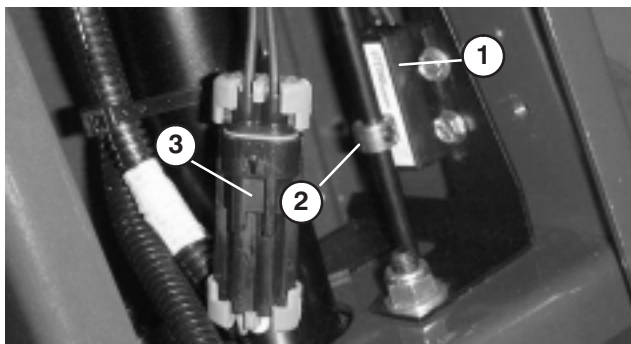

Figure 42
3. Disconnect switch pigtail connector from wire harness (Fig. 42).
5. Loosen set screw securing collar to parking brake rod (Fig. 42).
6. Slowly move collar on rod until it is aligned with cross hairs on switch label (Fig. 42). Tighten collar set screw.